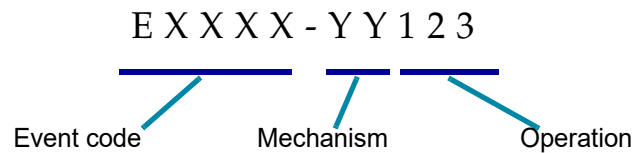

Figure 6-12 Two-part Error Code
①	The touch screen display says that processing is halted in a red banner at the top.
②	The error code is displayed. See Figure 6-12 and Table 6.2 for additional information on error codes.
③	In addition to a description of the error, the error message provides instructions for the operator.
④	If the audible alarm is enabled, the alarm will sound until either the Silence Alarm button or the Close button is touched. The system status lights flash in amber.
①	The touch screen display says it has an unrecoverable error in a red banner at the top.
③	A description of the error is displayed.
④	If the audible alarm is enabled, the alarm will sound until either the Silence Alarm button or the instrument is powered down. The system status lights flash in red.